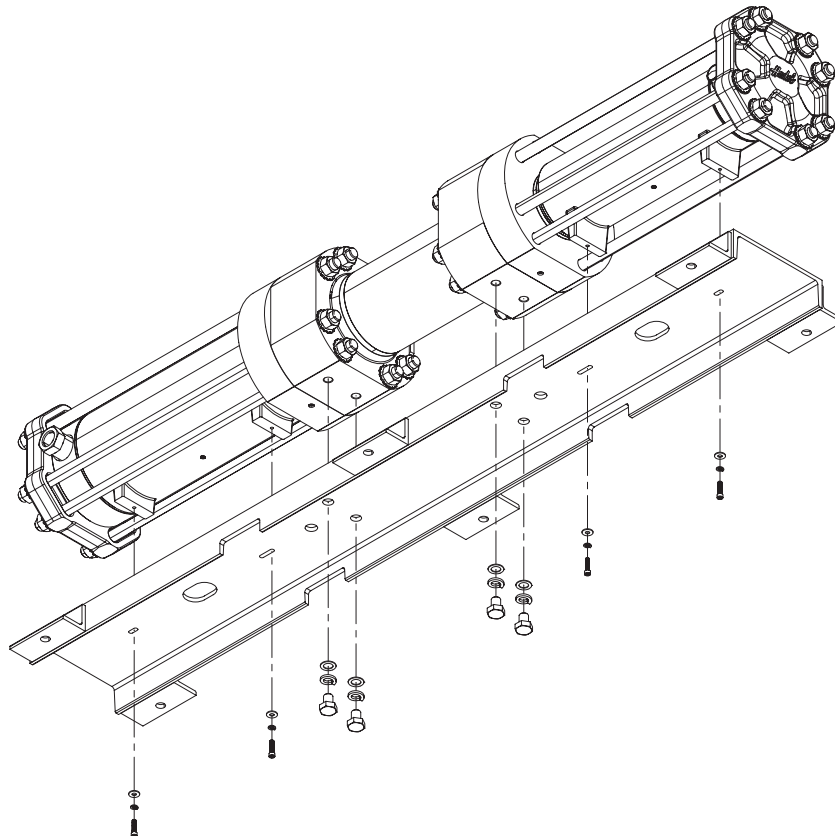

Figure 10: Mounting hole locations on the H-Drive for mounting it to the base plate.
The H-drive gas booster must be mounted on a stationary base or mounting plate. Haskel provides its standard, recommended mounting plate (Figure 10). If an equivalent base can be incorporated into a skid structure, Haskel suggests reviewing that mounting plate design before installing an H-Drive gas booster.
- 📢 Use Figure 10 as a reference to the mounting holes.